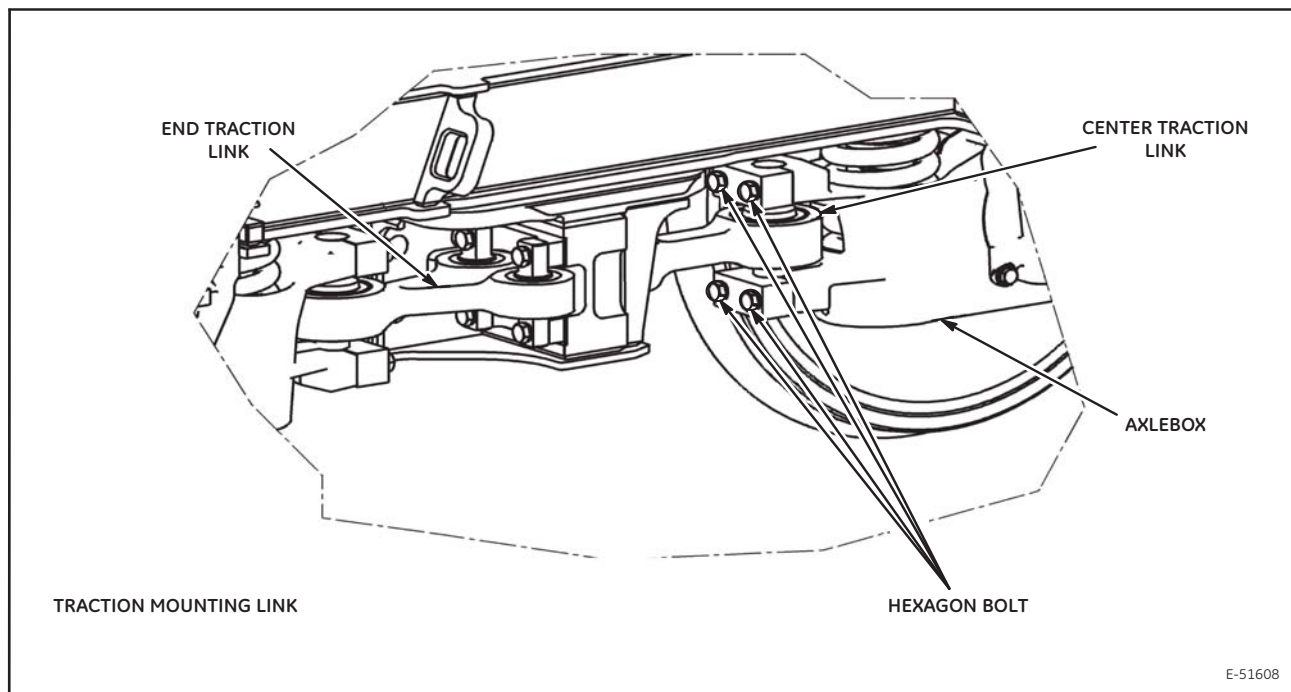

Figure 2. Traction Mounting Link
1. Remove the axlebox, disassemble the hexagon mounting bolts of the traction link at the side of axlebox Figure 2, lower the traction motor, wheel and axle set until the coil springs can be removed.